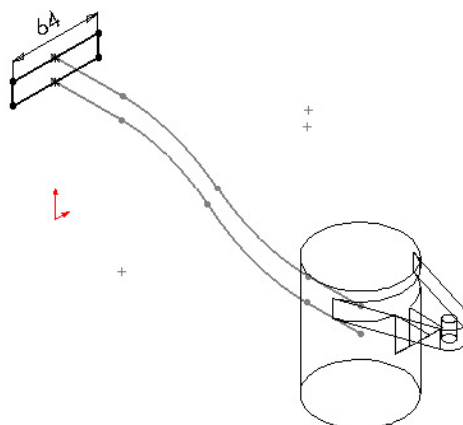

Figure 12 Profile dimension
21. Dimension the width of the rectangle to **64 mm** as shown in Figure 12.